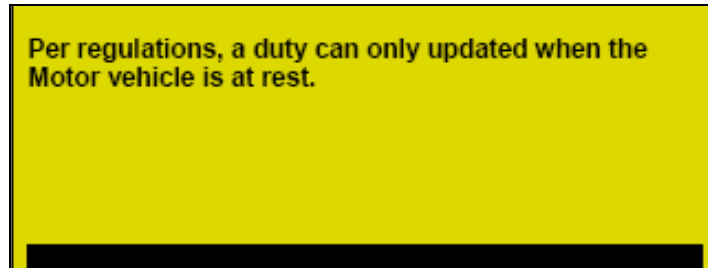

Figure 9: Vehicle in Motion Screen
- A duty status cannot be entered if the motor vehicle is in motion. If this occurs, the screen shown in Figure 9 appears for a few seconds, then returns to the **Start Up** screen.